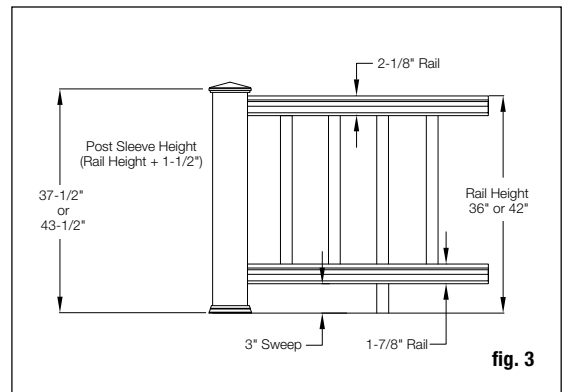

fig. 3
Step 5 Trim 4x4 post sleeves to length. Post sleeves should be a minimum of 1-1/2" longer than the railing height to accommodate a post cap (fig. 3, following page). Example: For a 36" high railing, trim post sleeve to a minimum of 37-1/2", or longer if desired; can be left longer if desired. Slide a trimmed post sleeve over each 4x4 railing post. Use shims as needed to create a snug fit. Slide a post base trim over each post sleeve.
Step 8 Assemble the lower inner rail and support block assembly. A support block is needed every 2' on-center. Check building codes for a maximum spacing between deck surface and bottom of rail (sweep). A 3" sweep is recommended, but can be more or less if codes allow (fig. 3). Trim support blocks to desired height and pre-drill 1/8" holes in the proper locations. Holes must be centered on the inner rail for support blocks to fit properly. Using the support block connectors, fasten support blocks to the underside of the inner rail.
Step 11 Determine the length of the balusters. Figure 3 illustrates how a 36" high railing might be sized. You'll need to account for a 3" sweep + 1-7/8" for the bottom railing + 2-1/8" inches for the top railing, a total of 7". So 36" - 7" = 29" baluster height. If these are the dimensions that you are going to use, cut the balusters to 29" length using a cut-off or miter saw. Use 35" balusters for 42" railings. If you want to have your railing at a different height, use figure 3 as a planning tool to determine the height to cut the post sleeves and the balusters. *Note:* If you are using 32" glass balusters, your overall railing height will be 39". Use a fixture to ensure a consistent length (+/- 1/16"). Trim the balusters to the required length. Install balusters on each baluster connector. Gently tap the balusters with a rubber mallet to eliminate any gaps. Check for level end to end. *Tip:* Wrap painters tape around the back side of both posts and place balusters against the tape. The tape will balance the balusters in place until the upper rails are installed. Remove tape when upper rail is in place.